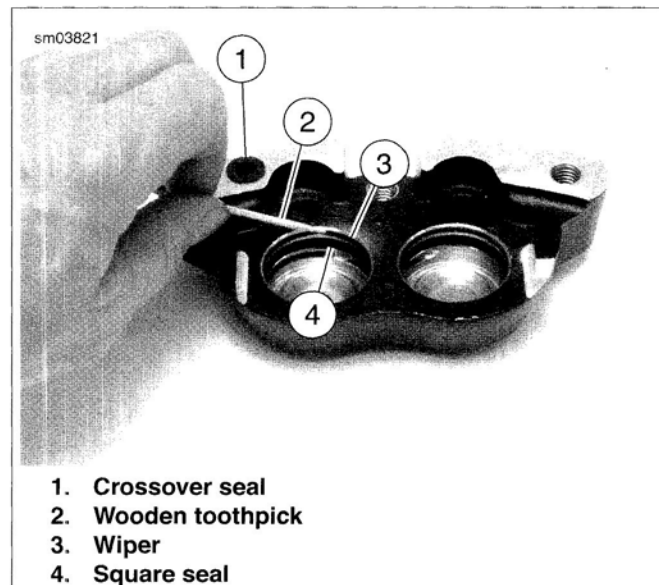

Figure 2-37. Wipers and Seals
6. See Figure 2-37. Remove and discard crossover seal (1) from inside caliper housing.
7. Using a wooden toothpick (2), remove a wiper (3) and square seal (4) from each caliper bore. Discard all removed parts.